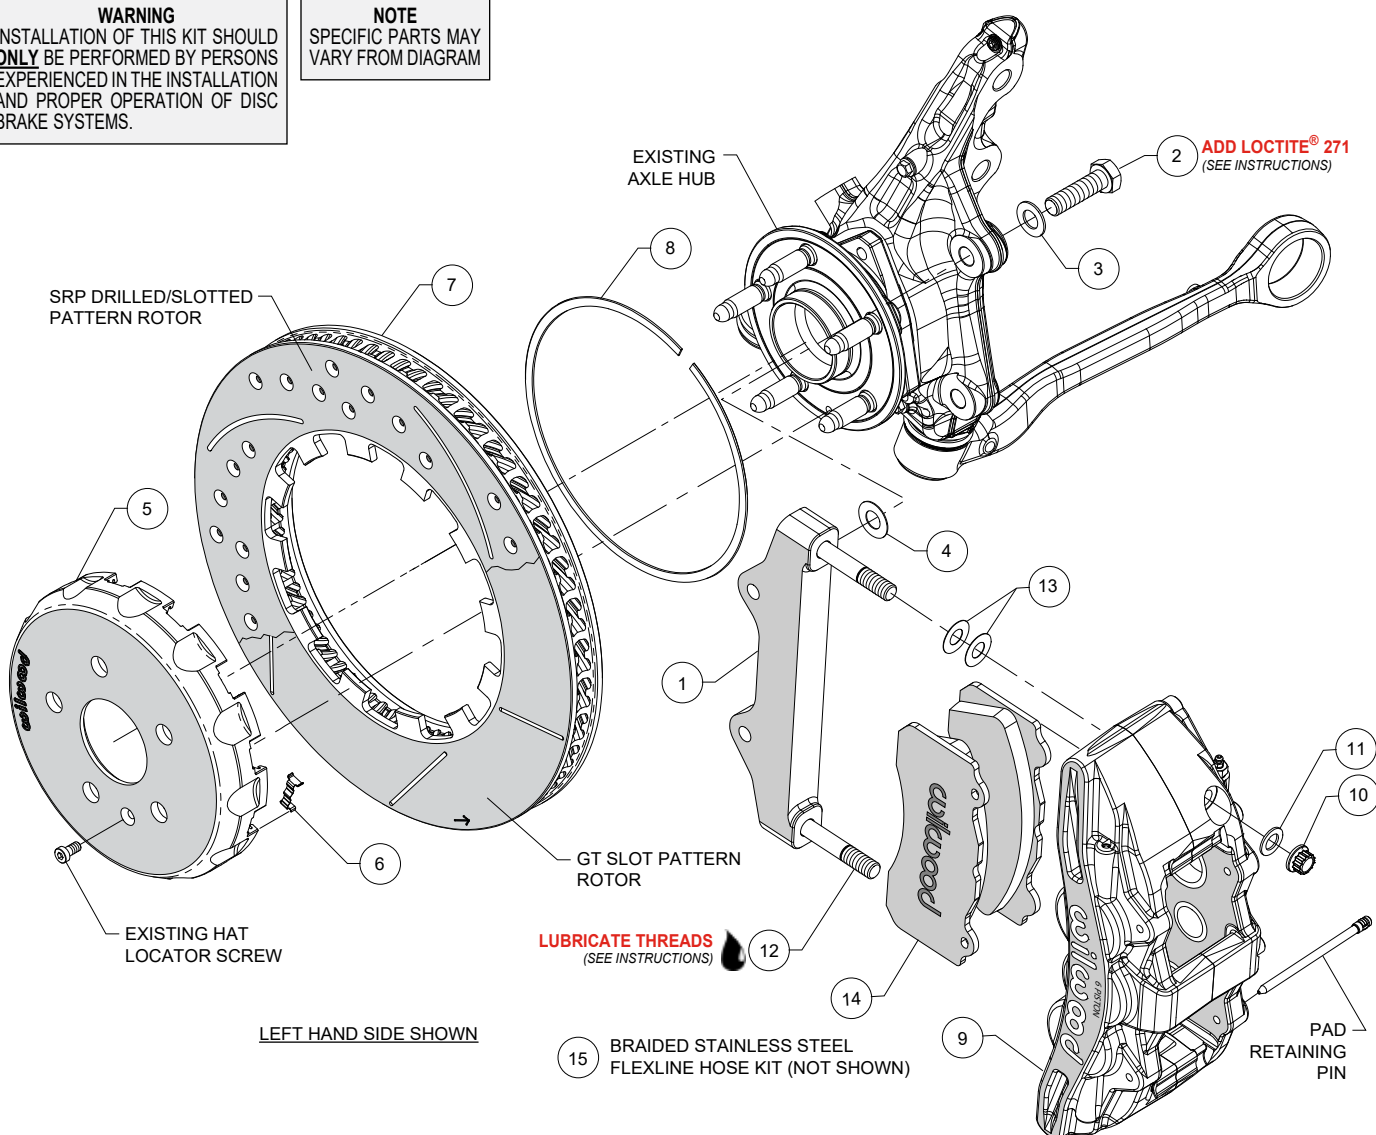

Figure 1. Typical Installation Configuration
NOTE: Numbers in parenthesis refer to the parts list and Figure 1 on the preceding pages.
•The caliper mount bracket (1) should initially be installed with clean, dry threads on the mounting bolts. Orient the bracket, as shown in Figure 1 and Photo 1, and install using bolts (2) and washers (3). Initially place one .029" thick shim (4) on each bolt between the bracket and upright, Figure 1. Temporarily tighten the mounting bolts. **NOTE:** The bracket must fit squarely against the mount bosses on the upright. Inspect for interference from casting irregularities, machining ridges, burrs, etc. Later, after the caliper alignment has been checked, the mount bolts will be secured using red *Loctite*® 271.
•Insert the dynamic mount wear clips (6) into the slots in the hat (5), Photos 2 and 3. Orient the rotor (7) as shown in Figure 1 and Photo 4, with the flush side of mount lugs facing the hat. Secure the rotor to the hat using the snap ring (8) by simultaneously pushing down on the rotor and installing the ring into the groove in the hat, as shown in Photo 5. Carefully inspect snap ring to ensure complete engagement in the groove.
•Slide the hat/rotor assembly onto the axle hub, Photo 6. **NOTE:** The hat must fit flush against the axle hub flange or excessive rotor run out may result. Install the hat locator screw (OEM), as shown in Figure 1, to keep the hat/rotor assembly in place while continuing with the installation.
•**NOTE:** This kit contains distinct right and left hand calipers that must be mounted in a specific direction, as described below. Lubricate the caliper mounting studs (12) with lightweight oil. Initially place two .015" thick shims (13) on each stud between the caliper and the bracket, as shown in Figure 1 and Photo 7. Mount the caliper (9) onto the bracket (1) using lock nuts (10) and washers (11), Figure 1. Temporarily tighten the lock nuts. Ensure that the caliper is mounted so the largest pistons are at the rotor exit end of the caliper, in relation to the direction of the rotor. View the rotor through the top opening of the caliper. The rotor should be centered in the caliper, Photo 8. If not, adjust by adding or subtracting shims (4) between the bracket and the upright. Always use the same amount of shims on each of the two mounting bolts. Once the caliper alignment is correct, remove the bracket mounting bolts (2) one at a time, apply red *Loctite*® 271 to the threads, and torque to 105 ft-lbs.
•Remove the two pad retaining pins from the caliper (9) by pushing out the pins from the tapered end using a blunt instrument. Insert the brake pads (14) into the caliper from the bottom, Figure 1 and